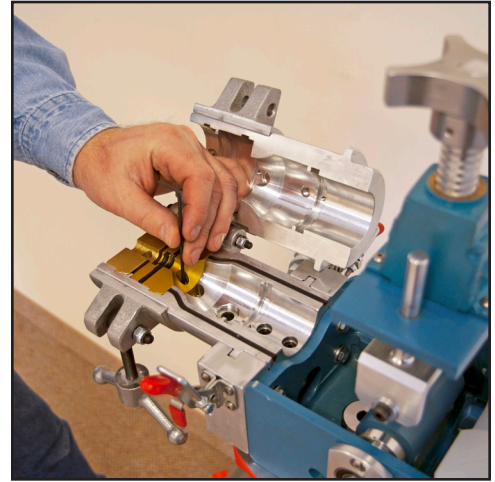

Figure 4. Select & Install Duct Packs
3. Select and install the appropriate sized Duct Clamp and Duct Seal to the Blower Assembly using (1) M04-0.7 x 16mm Capscrew for each. (See figure 4)